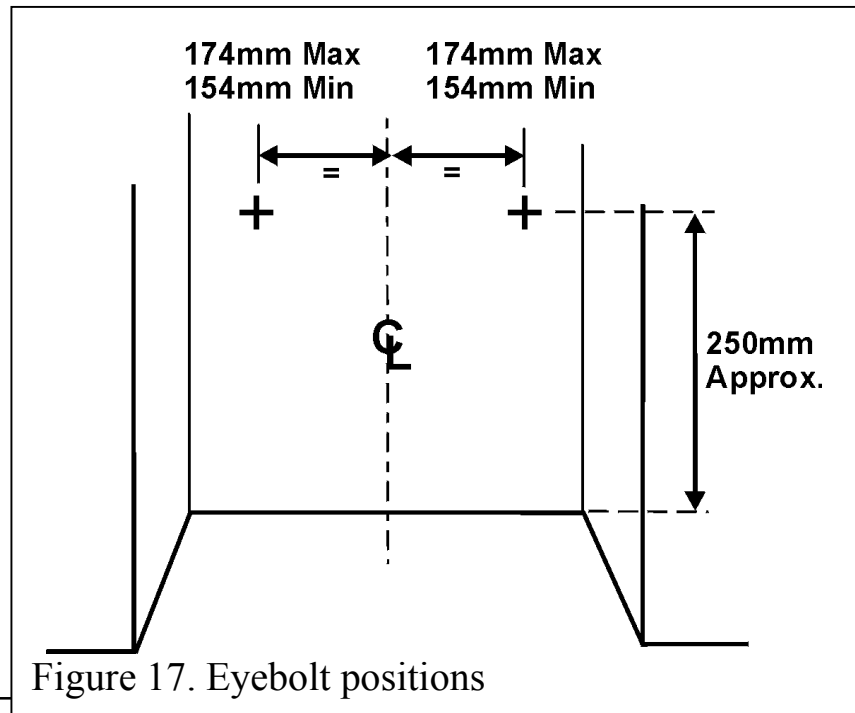

Figure 17. Eyebolt positions
- Cables and eyebolts are supplied for the retention of the appliance. Ensure that the internal fireplace components are sufficiently sound to take the eyebolts and wall plugs. These should be located as shown in figure 17 using the wall plugs and a No.10 drill. Use only the fibre wall plugs supplied (or similar). **Never use plastic plugs instead of the fibre plugs supplied.**